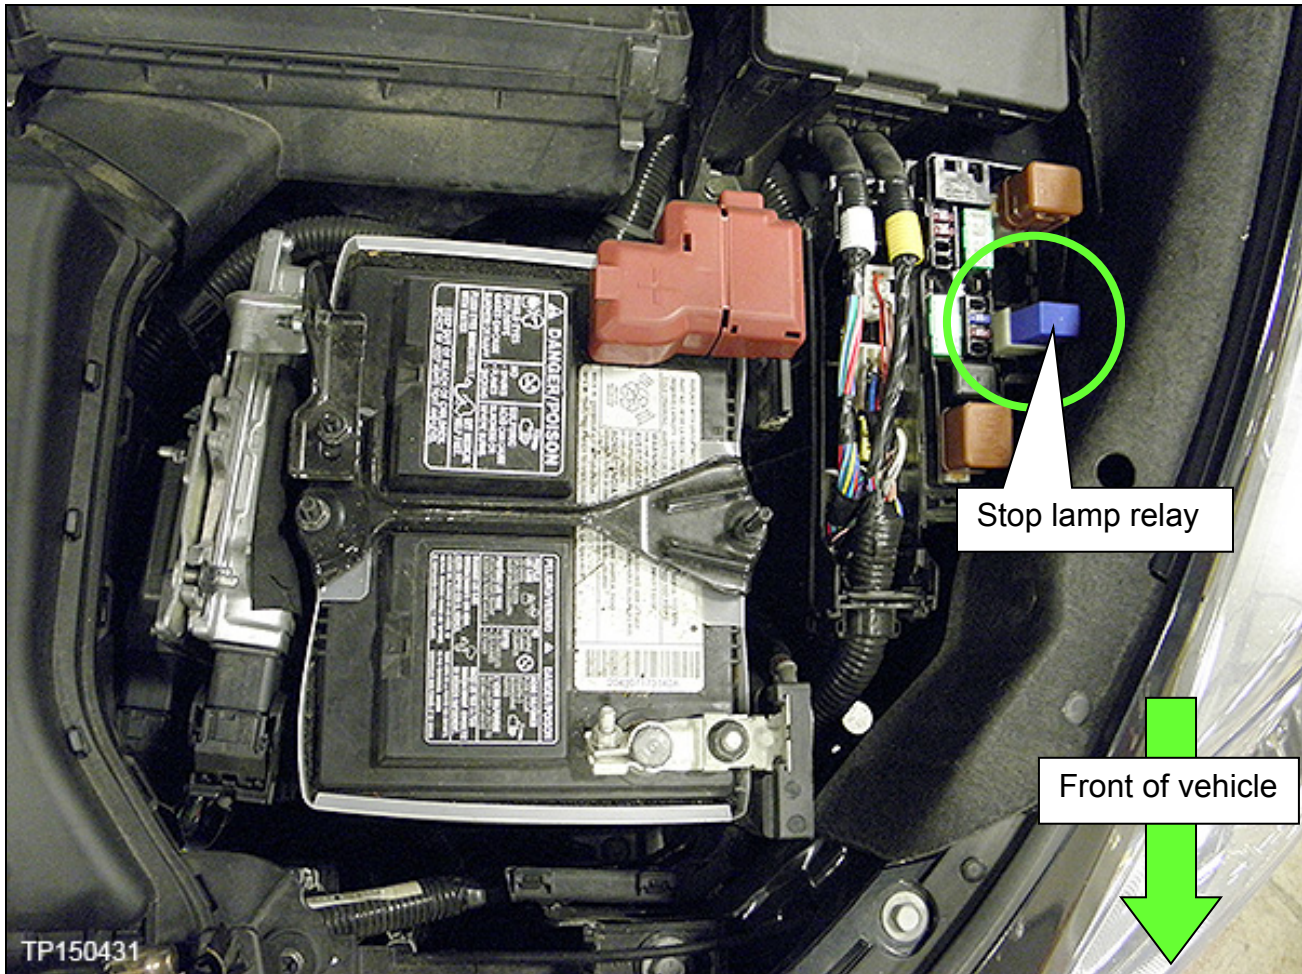

Figure 1
2. Remove “fuse and fusible link box” (fuse box) cover and locate stop lamp relay (Figure 1).